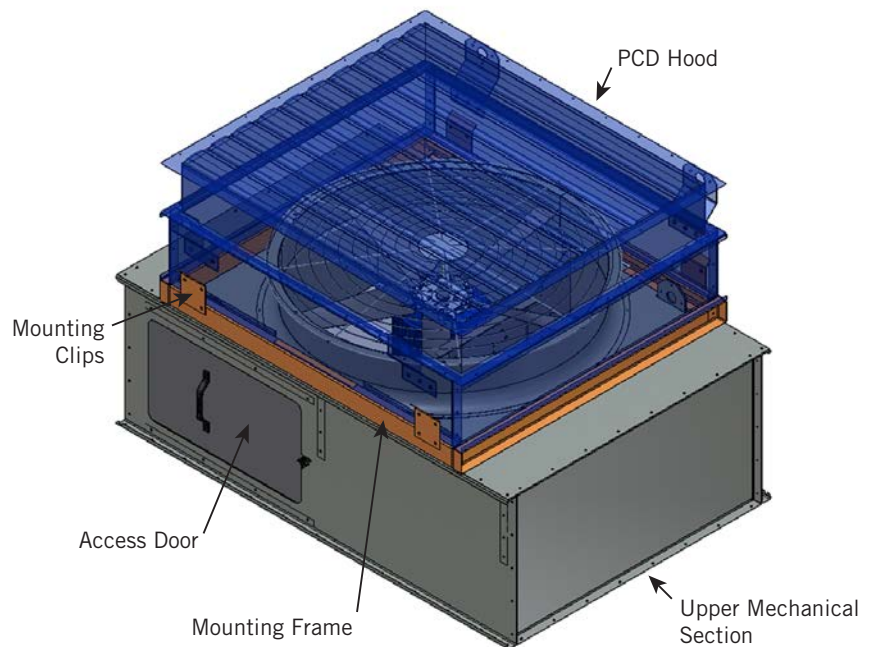

Figure 20. PCD Hood Edge Mounted Assembly (PF2-0406 Shown)
Frame Mounted Assembly: PF2-0406, PF2-0412, PF2-0709, and PF2-0718, (One Fan Only for PF2-1218, PF2-1236, PF2-2418, and PF2-2436) (Figure 20)
1. Verify the mounting frame (and clips for PF2-0406 and PF2-0412) are factory installed as shown in **Figure 20**.